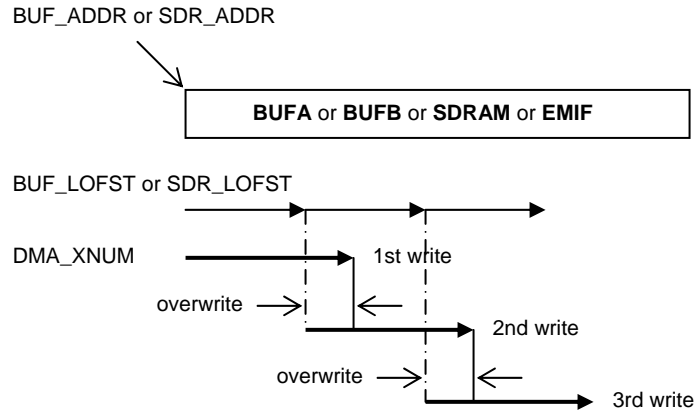

Figure 6: Data overwrite when LOFST < DMA_XNUM
The start address offset of shared memory is specified in BUF_ADDR. The start address offset of SDRAM is specified in SDEM_ADDRH and SDEM_ADDRL. Line offset value for shared memory is set in BUF_LOFST and for SDRAM is set in SDEM_LOFST. When the line-offset values (BUF_LOFST and SDEM_LOFST) is less than the value of DMA_XNUM, it is overwritten as shown in **Figure 6**.
- ❑ Set the access block size in the X and Y directions in DMA_XNUM and DMA_YNUM. Ensure that block sizes and line offsets are so chosen that there is no overwriting issues as described in **Figure 6**.